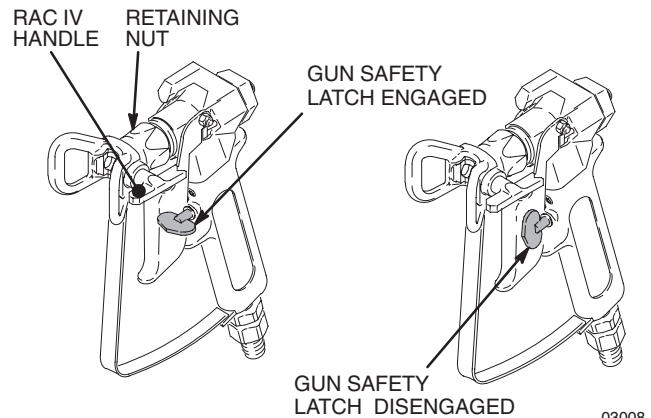

Fig. 5
- a. Open (handle down) pressure drain valve (G). If no secondary hose is installed, be sure secondary outlet cap is installed. Turn ON/OFF (L) switch ON. Slowly turn pressure adjusting knob clockwise until sprayer starts. When fluid comes from drain hose, close pressure drain valve (handle forward).
- b. Fig. 5. Disengage gun safety latch. Following warning, above, trigger gun until all air is forced out of system and paint flows freely from gun.
8. Fig. 5. Engage gun safety latch. Install spray tip. Install tip guard. See manual 308644, supplied.
- Test spray pattern. To adjust pattern, engage gun safety latch, loosen retaining nut. Position tip guard horizontally for horizontal pattern or vertically for vertical pattern. Then tighten retaining nut. Fig. 5.
- If spray tip clogs, release gun trigger, engage gun safety latch, and rotate RAC IV handle 180°. See Fig. 5.